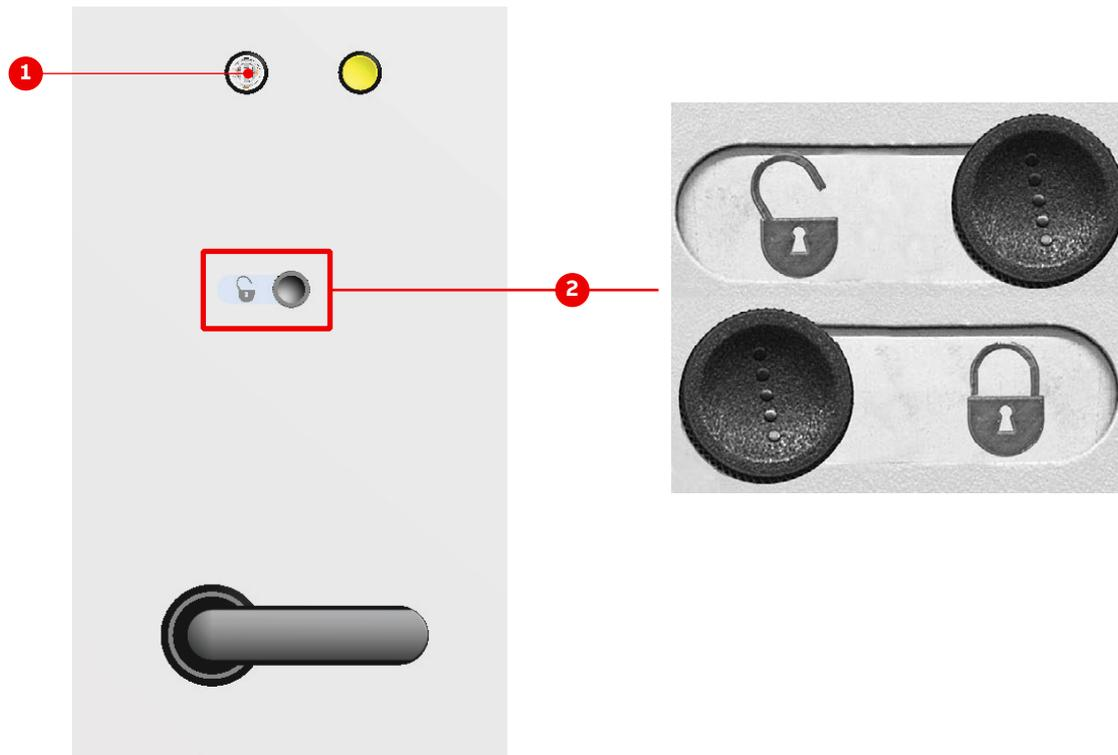

Figure 3-23 Locking bar and white lamp
- Locking bars (Fig. 3-23)
There is one locking bar (Fig. 3-23: 3) on each primary and each secondary PCU.
Sliding a locking bar to the unlocked or locked position is only possible, once the white lamp (Fig. 3-23: 2) lights up. The white lamp indicates that the drive is grounded.